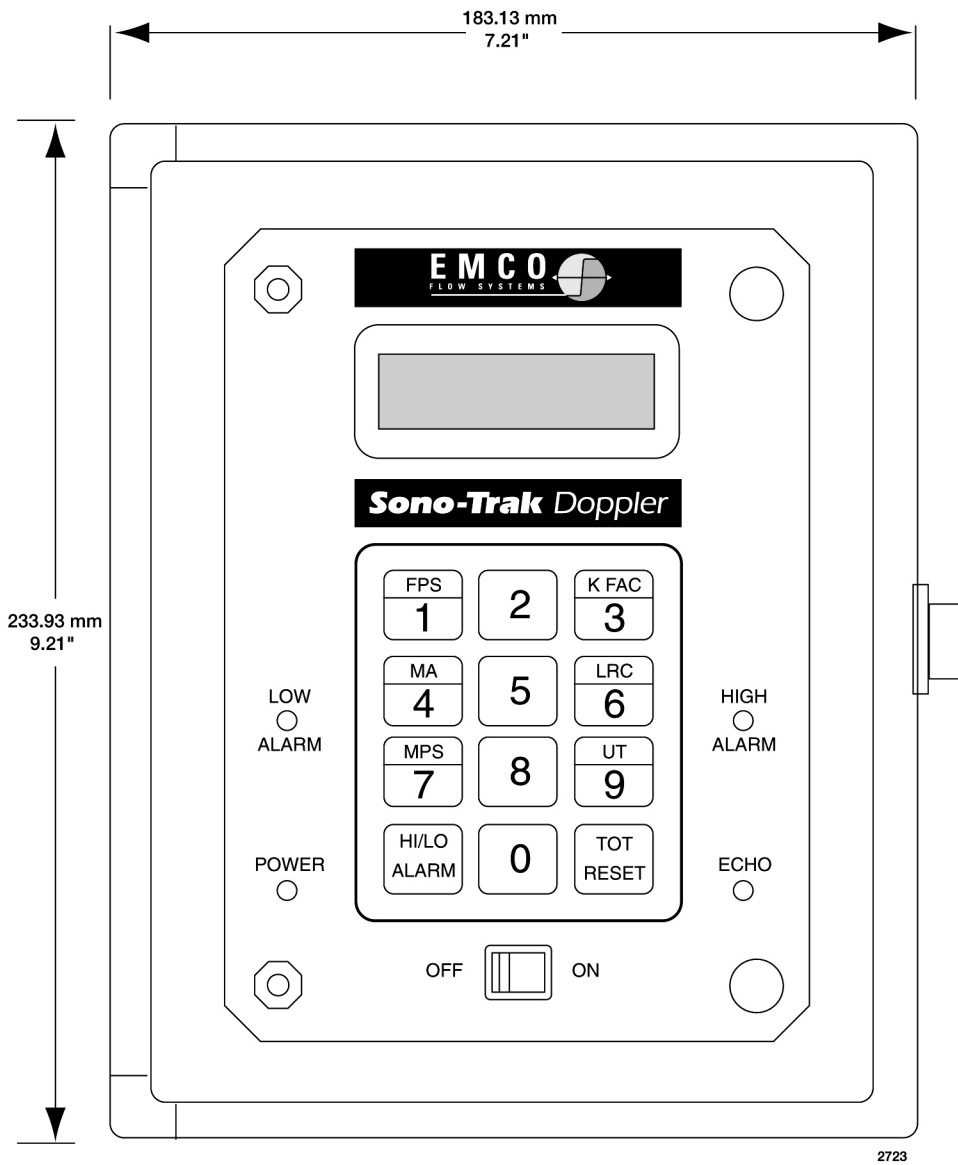

Figure 4-1. Front view of the electronics enclosure (the display panel)
Dimensions	9.21" (H) x 7.21" (W) x 5.09" (D) 285 mm (H) x 183 mm (W) x 129 mm (D) Note: See Figure 4-1 on page 4-6 for dimensional illustrations.